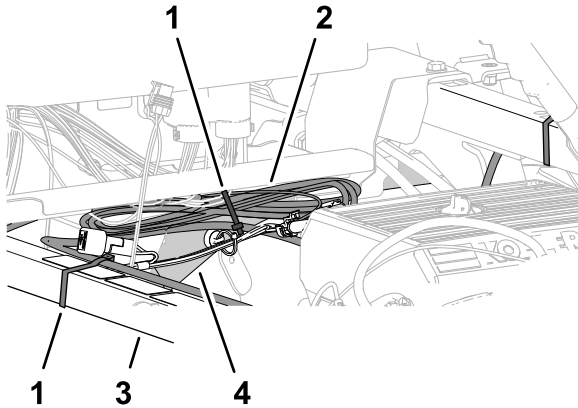

Figure 212
1. Gather the excess length of the data harness against the right, upper-frame tube (Figure 212).
2. Align the data harness to the shock-support tube, and secure the harness to the tube with a cable tie (Figure 212).
3. Align the data-harness bundle to the right, upper-frame tube, and secure the harness bundle to the frame tube with a cable tie (Figure 212).